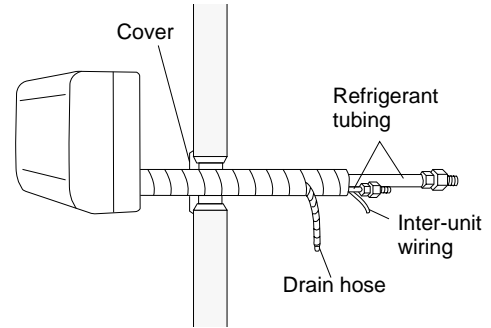

Fig. 24
- (1) Shape the refrigerant tubing so that it can easily go into the wall hole. (Fig. 24)